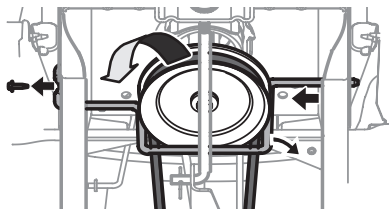

Figure 39
5. Remove the hex screw securing the engine pulley keeper rod to the frame. See Figure 39.